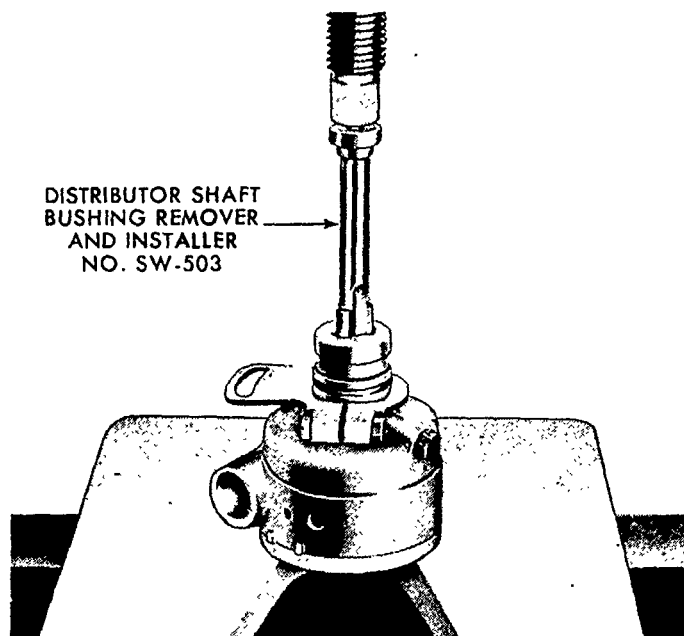

Figure 66
18. If the shaft bushing is damaged, or not within specified limits, page 69, remove it from the distributor housing. Where available, use Distributor Shaft Bushing Remover and Installer, No. SW-503, Figure 66.